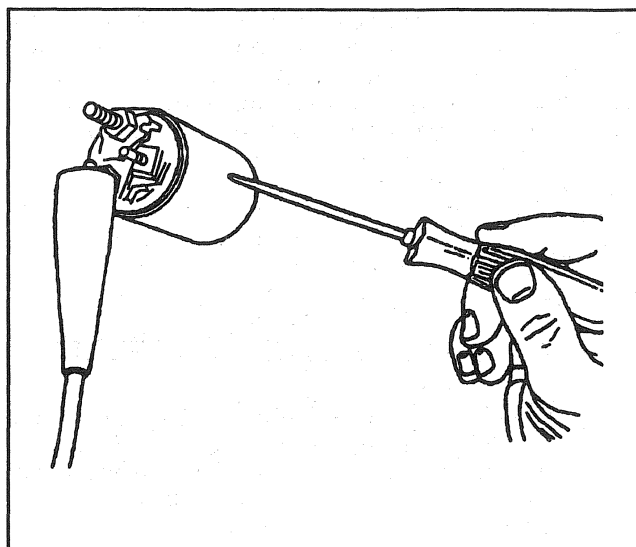

Figure 7—Checking the Solenoid for Opens or Grounds
15. Solenoid for grounds using a self-powered 12 volt test lamp (Figure 7).